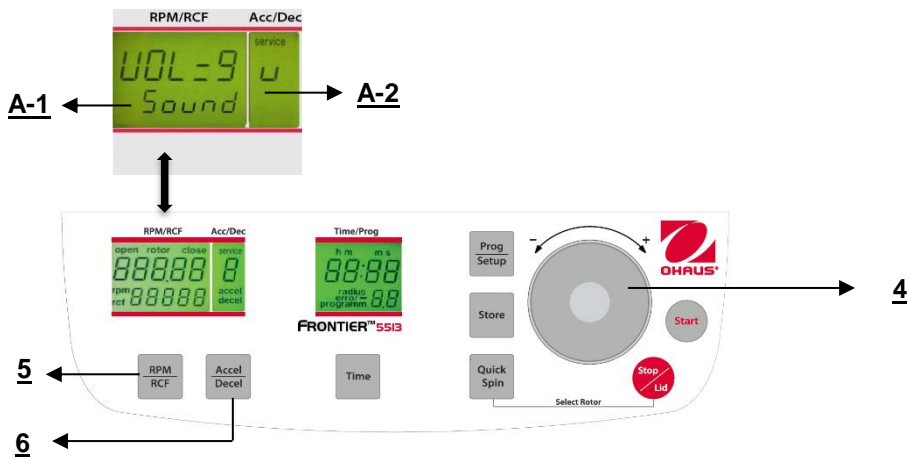

Figure. 31
Proceed as described under point 4.1.2 to enter this program mode and then press the key "Accel/Decel" (6). In the display "Acc/Dec" (A-2) the word "Service" flashes. Now select the letter "U" with the adjusting dial (4). As a result, in the display "RPM/RCF" (A-1) the words "Vol=0- 9/Sound" appear. After pressing the key "RPM/RCF" (5), you can adjust the desired volume between 0 (low) and 9 (loud) with the adjusting dial (4) (See figure 31).